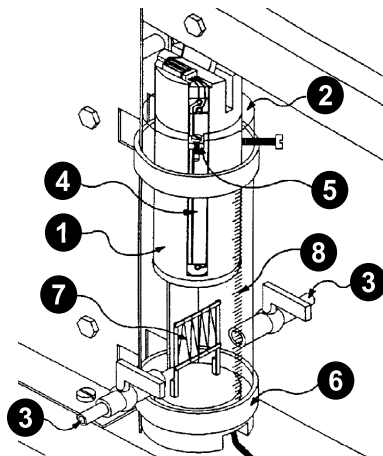

Figure 1. Cylinder
The diagram in Figure 1 demonstrates the key components of the apparatus. A **piston** (item ①) made of acetal plastic is manually driven up or down in an **acrylic cylinder** (②), which is filled with any of several gases, including monatomic argon, diatomic air or nitrogen, triatomic carbon dioxide, and other polyatomic gases. These gases can be injected and exhausted through the two brass **gas cocks** (③).